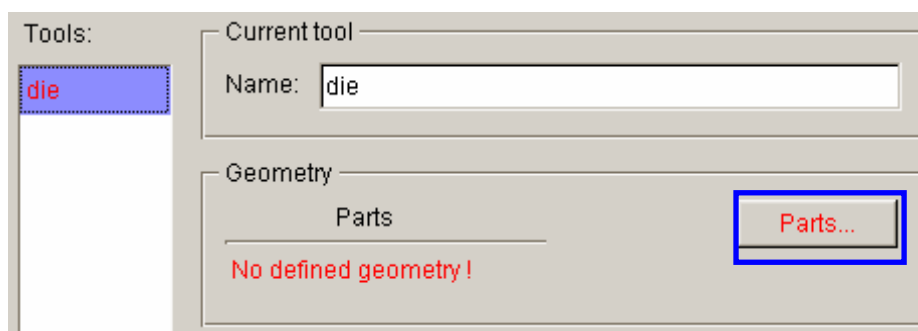

Figure 4.14 Die definition
4. Press **Parts...** button to assign a part as die. See Figure 4.14.